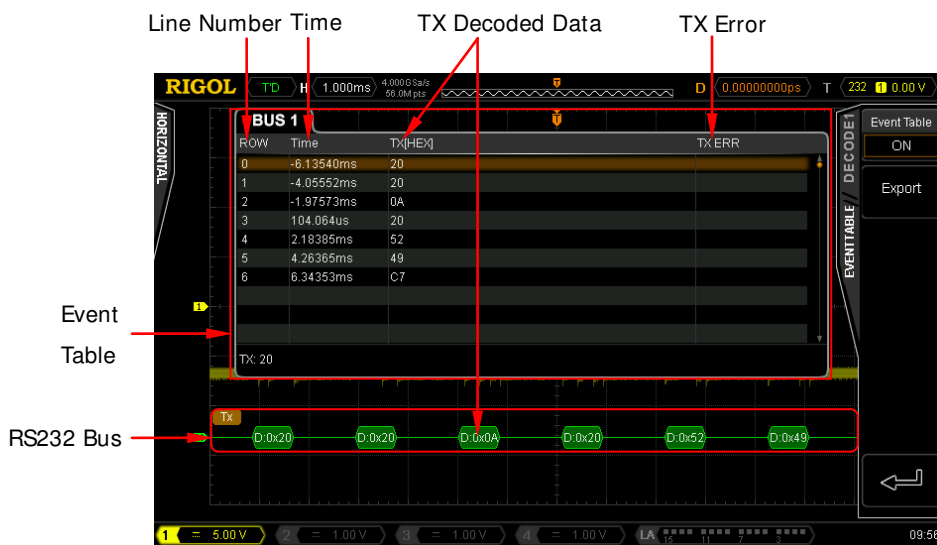

Figure 8-3 RS232 Decoding
Press **BusStatus** to turn the Decode1 display on or off. You can also press **Decode1** to switch the current on/off status of the Decode1 display. When the bus display is turned on, the interface is as shown in Figure 8-3.
- 1) Press **Event Table** to turn on or off the event table. When the event table is turned on, the interface is as shown in Figure 8-3.